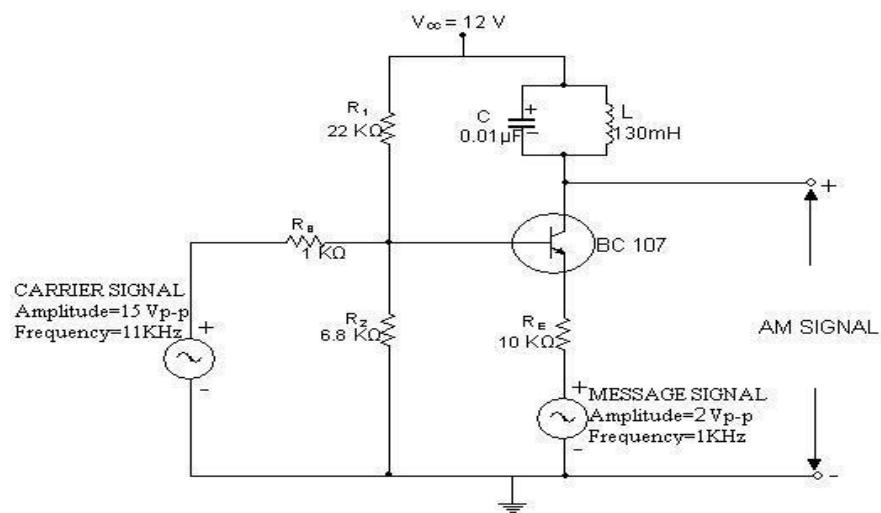

Fig. 1. AM modulator
1. The circuit is connected as per the circuit diagram shown in Fig.1.